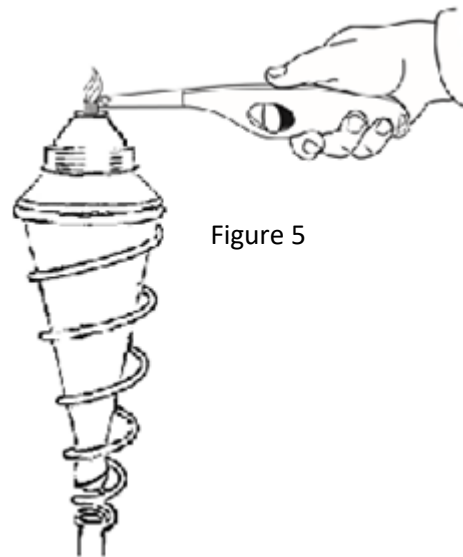

Figure 5
6. Use a long lighted or long fireplace match to light the torch wick (Figure 5).